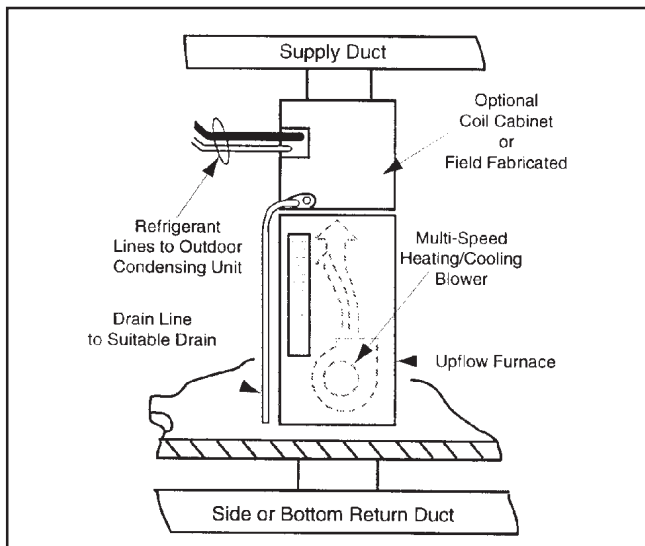

Figure 2
4. Make a plenum to enclose the coil or drop the duct directly over it. Insulate as required. (See Figure 2)